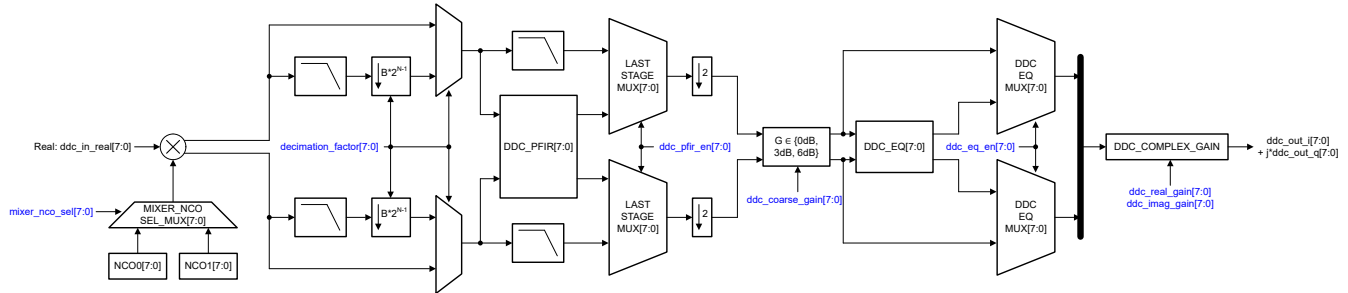

Figure 7-25. Complex Decimation Signal Chain (decimation factors of 2 (B = 1))
- **Complex decimation with real input:** The DDC is given a real input that is mixed with an NCO to produce a complex output. The complex output is low pass filtered and down sampled by the decimation factor (M). The output of the DDC block in this mode is a complex signal and detailed DDC chain is shown in Figure 7-25.